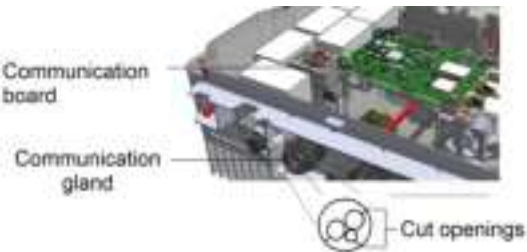

Figure 2: Communication gland and rubber fitting
- e. Connect the Ethernet connector to the RJ45 port on the communication board (see *Figure 2*).